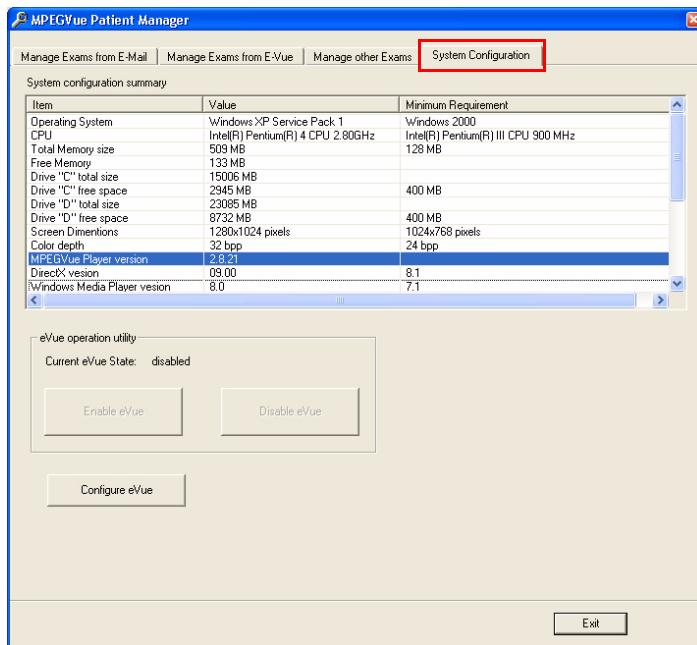

Figure 3-141 MPEGVue Patient Manager Window - System Configuration Tab
a.) Make sure the System Configuration tab is activated as shown in Figure 3-141.